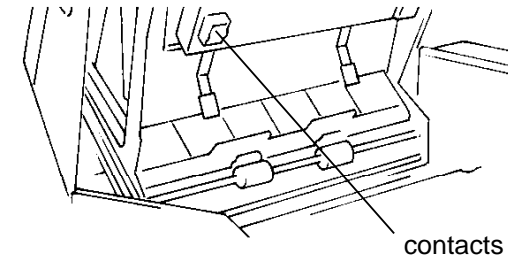

Figure 11. Laser Contacts
- d. Inspect or clean the contacts on the bottom of the laser assembly with a cotton swab (Figure 11).